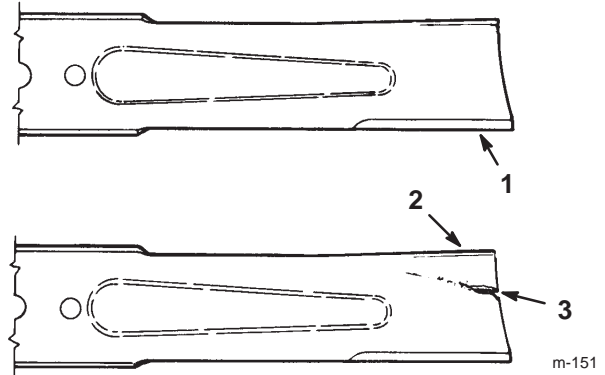

Figure 28
2. Inspect the cutting edges (Fig. 28). If the edges are not sharp or have nicks, remove the blade and sharpen them; refer to Sharpening the Blade on page 29.
3. Inspect the blade, especially the curved area (Fig. 28). If you notice any damage, wear, or a slot forming in this area (Fig. 28), immediately install a new blade.